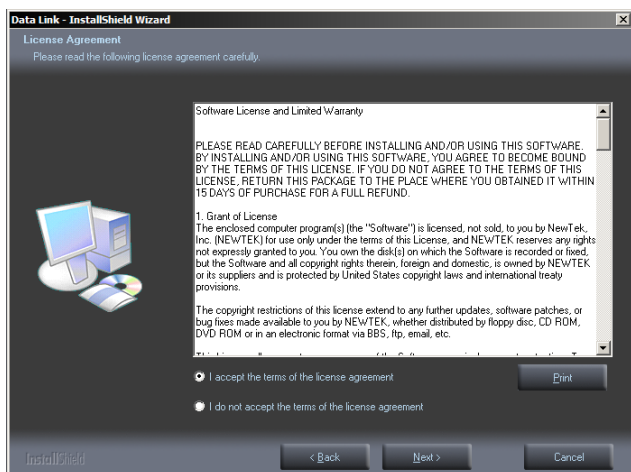

Figure 2 - EULA Dialog
3. The DataLink installer will now present a dialog (Figure 2) to ask you to accept the **End User License Agreement**. Please read the EULA